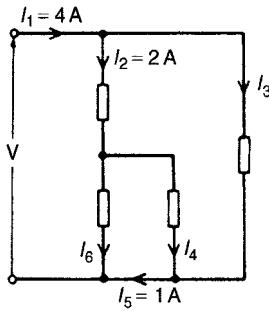

Figure 13.11
- 1 Find currents I_3, I_4 and I_6 in Fig. 13.11